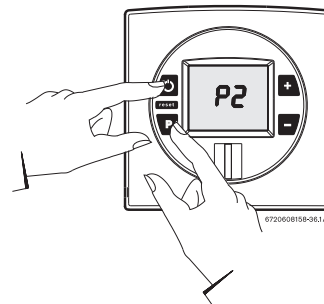

Fig. 65
- ▶ While holding the Program (P) button in, press the ON/OFF button to turn ON the heater (see Fig. 65). As soon as '188' flashes on the display, release the Program button. The display should now read P2. Press '−' button until "P1" appears on display.